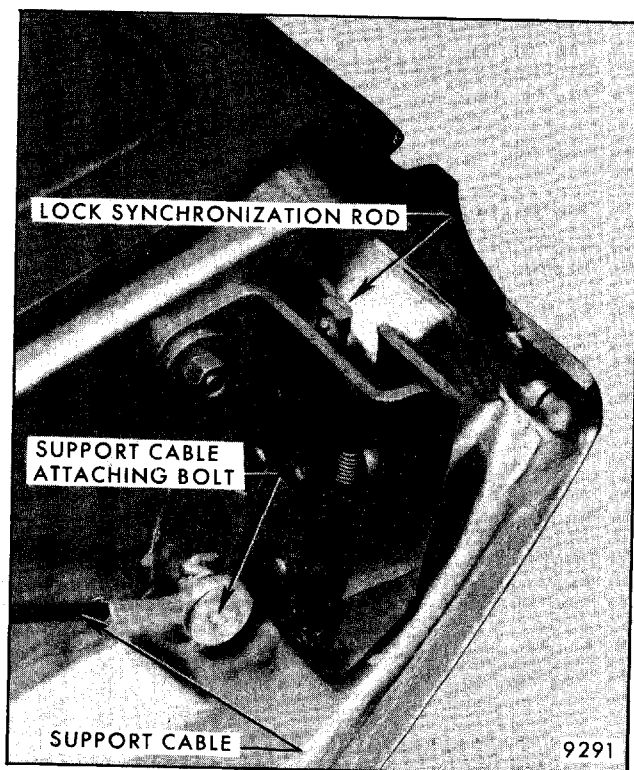

Fig. 7-142 - Tailgate Upper Left Lock Assembly
2. Support tailgate in a full-open position and remove support cable to left upper hinge striker assembly attaching bolt (Fig. 7-142).